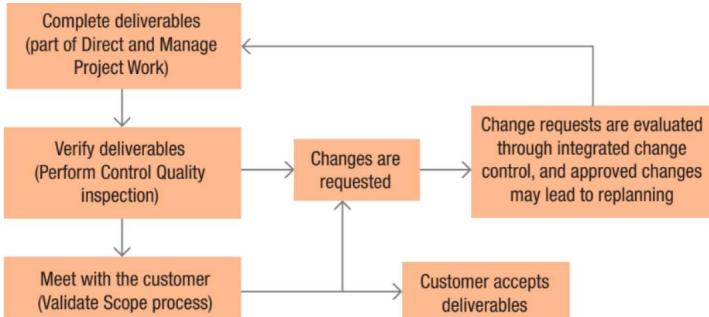

FIGURE 7.18 Relationship of Validate Scope to Control Quality
- We have already mentioned that Validate Scope and Control Quality are related. The high-level diagram in figure 7.18 should help you visualize this.